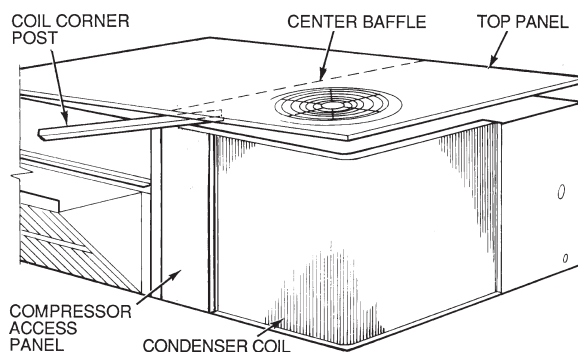

Fig. 13 — Propping up Top Panel
5. Hold the top pan open by placing the coil corner post between the top panel and center post. See Fig. 13.